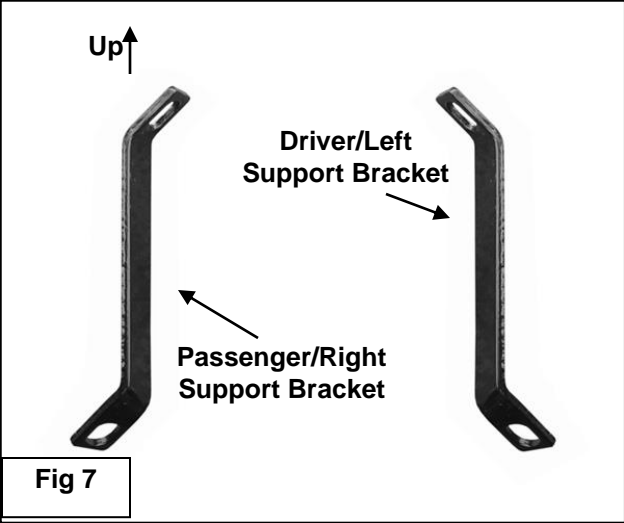
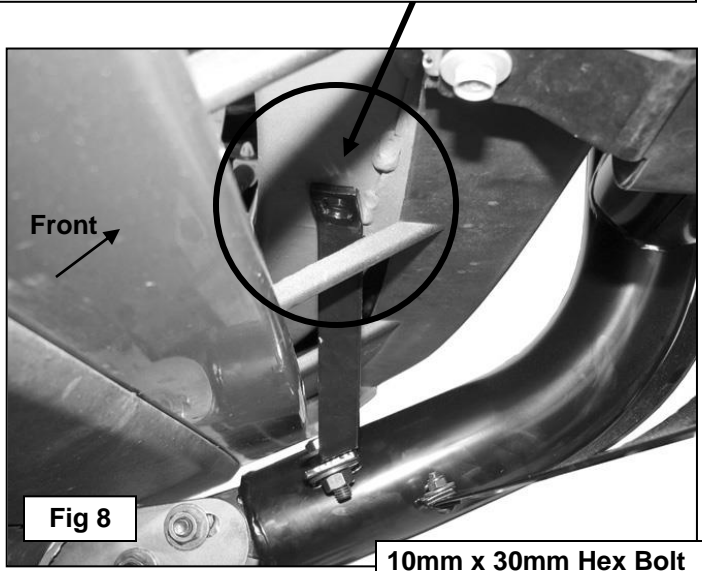

Fig 7
Fig 8
6. Next, select the driver side Support Bracket, **(Figure 7)**. Bolt the Bracket to the bottom of the tab on the Bull Bar using (1) 10mm x 30mm Hex Bolt, (2) 10mm Flat Washers, (1) 10mm Lock Washer and (1) 10mm Hex nut. Move the top of the Support Bracket into position under the cross member behind the front bumper. Mark the bracket location, **(Figure 8)**. Repeat this Step to mark the passenger side Support Bracket location.